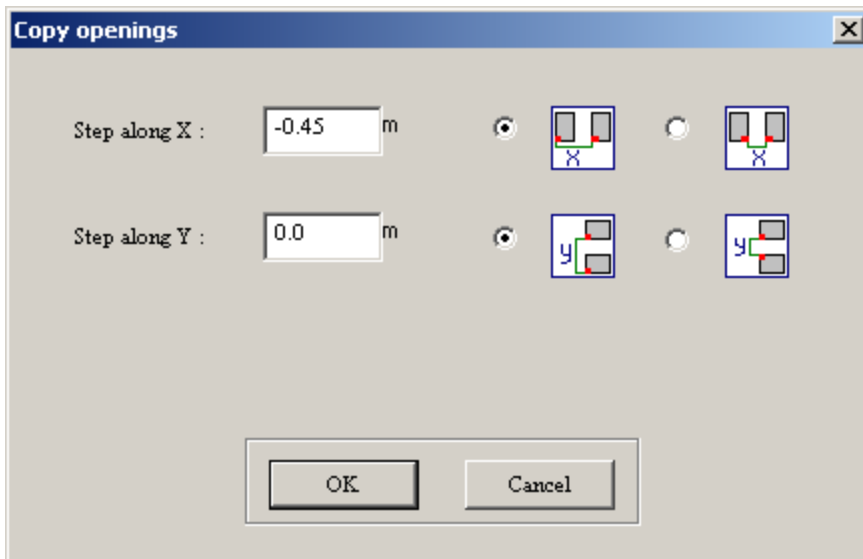

Figure 1.6.13 **Copy openings** dialog box
- in the **Copy openings** dialog box (see Fig.1.6.13), define the following parameters: